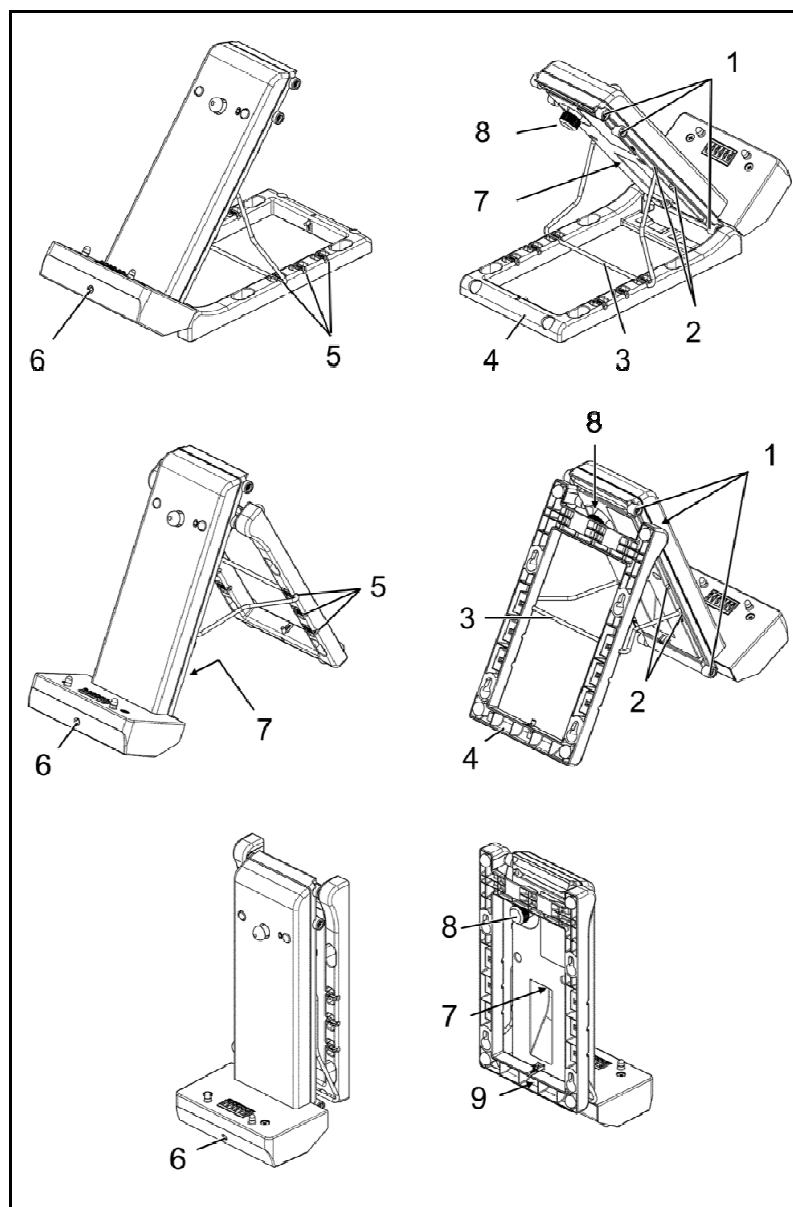
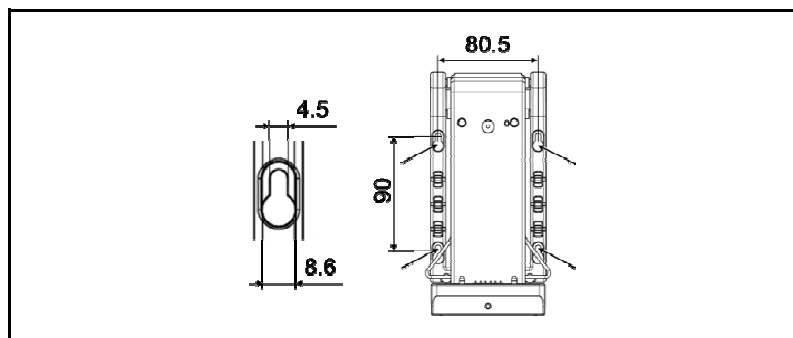
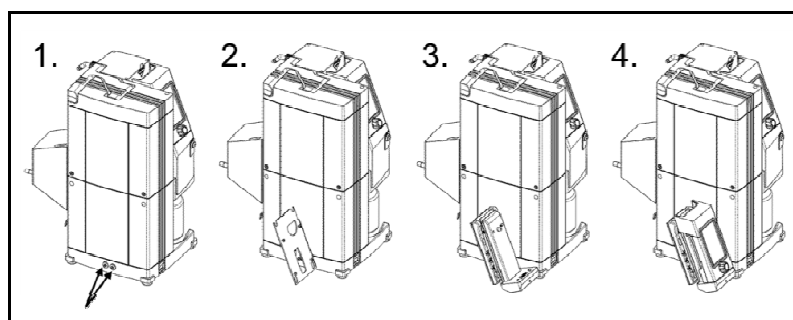

Fig. 6: Charging station for hand terminal
Fig. 7: Charging station fixed to a wall
Fig. 8: Attaching the charging station to the SCC 950 vacuum pump system
- Set up the charging station Set up the charging station for hand terminal 2 (see Fig. 6, page 20).
- 1.) Bench version 1 (see Fig. 6, top)
- 2.) Bench version 2 (see Fig. 6, center)
- 3.) Wall installation (see Fig. 6, bottom)
- 4.) Attachment to the vacuum pump system (see Fig. 6, bottom)
The green LED (Fig. 6/6) indicates that the hand terminal is charging (LED lit) when it is placed on the charging station and the station is connected to the power supply via the power supply unit.
1.) Bench version 1 (Fig. 6, top)
The angle of the charging station can be adjusted by the positions of the foot and the wire support (mounting options, see Fig. 6).
2.) Bench version 2 (Fig. 6, center)
3.) Wall installation (Fig. 6, bottom)
- Fixing screw (Fig. 6/9) tightened
- Hand terminal on charging station and fixed in place with the transport holder (Fig. 6/8) (optional)
1. Hang the charging station on the wall (hanging points, see arrows in Fig. 7).
4.) Attachment to the vacuum pump system (Fig. 6, bottom)
1. Loosen the two Allen screws (Fig. 8/1.) so that the bracket can be mounted.
2. Mount the enclosed bracket (Fig. 8/2.).
4. Hang the charging station on the four screws in the bracket (Fig. 8/3., hanging points, see arrows in Fig. 7).
6. Place the hand terminal on the charging station (Fig. 8/4.) and fix in place with the transport holder (Fig. 6/8) (optional)